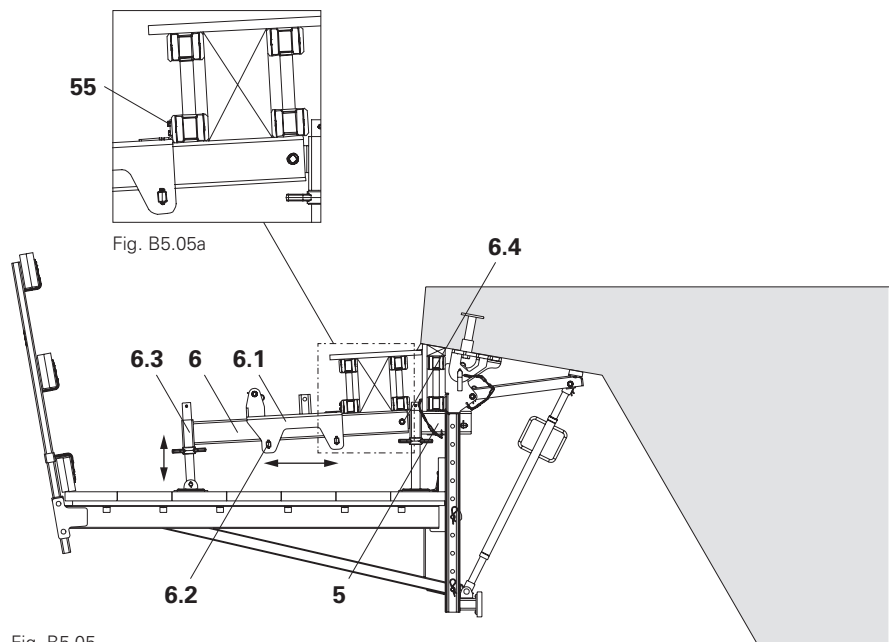

Fig. B5.05
1. Fix Formwork Support VGK (6) to Formwork Fixing VGK 2 (5) with bolts (6.4).
3. Fix slab formwork to the guide carriage (6.1) by means of 2 Torx 6 x 60 (55) respectively.
5. Fix both wedges (6.2) on the guide carriage (6.1) using a sledge hammer (5 kg). (Fig. B5.05 + Fig. B5.05a)